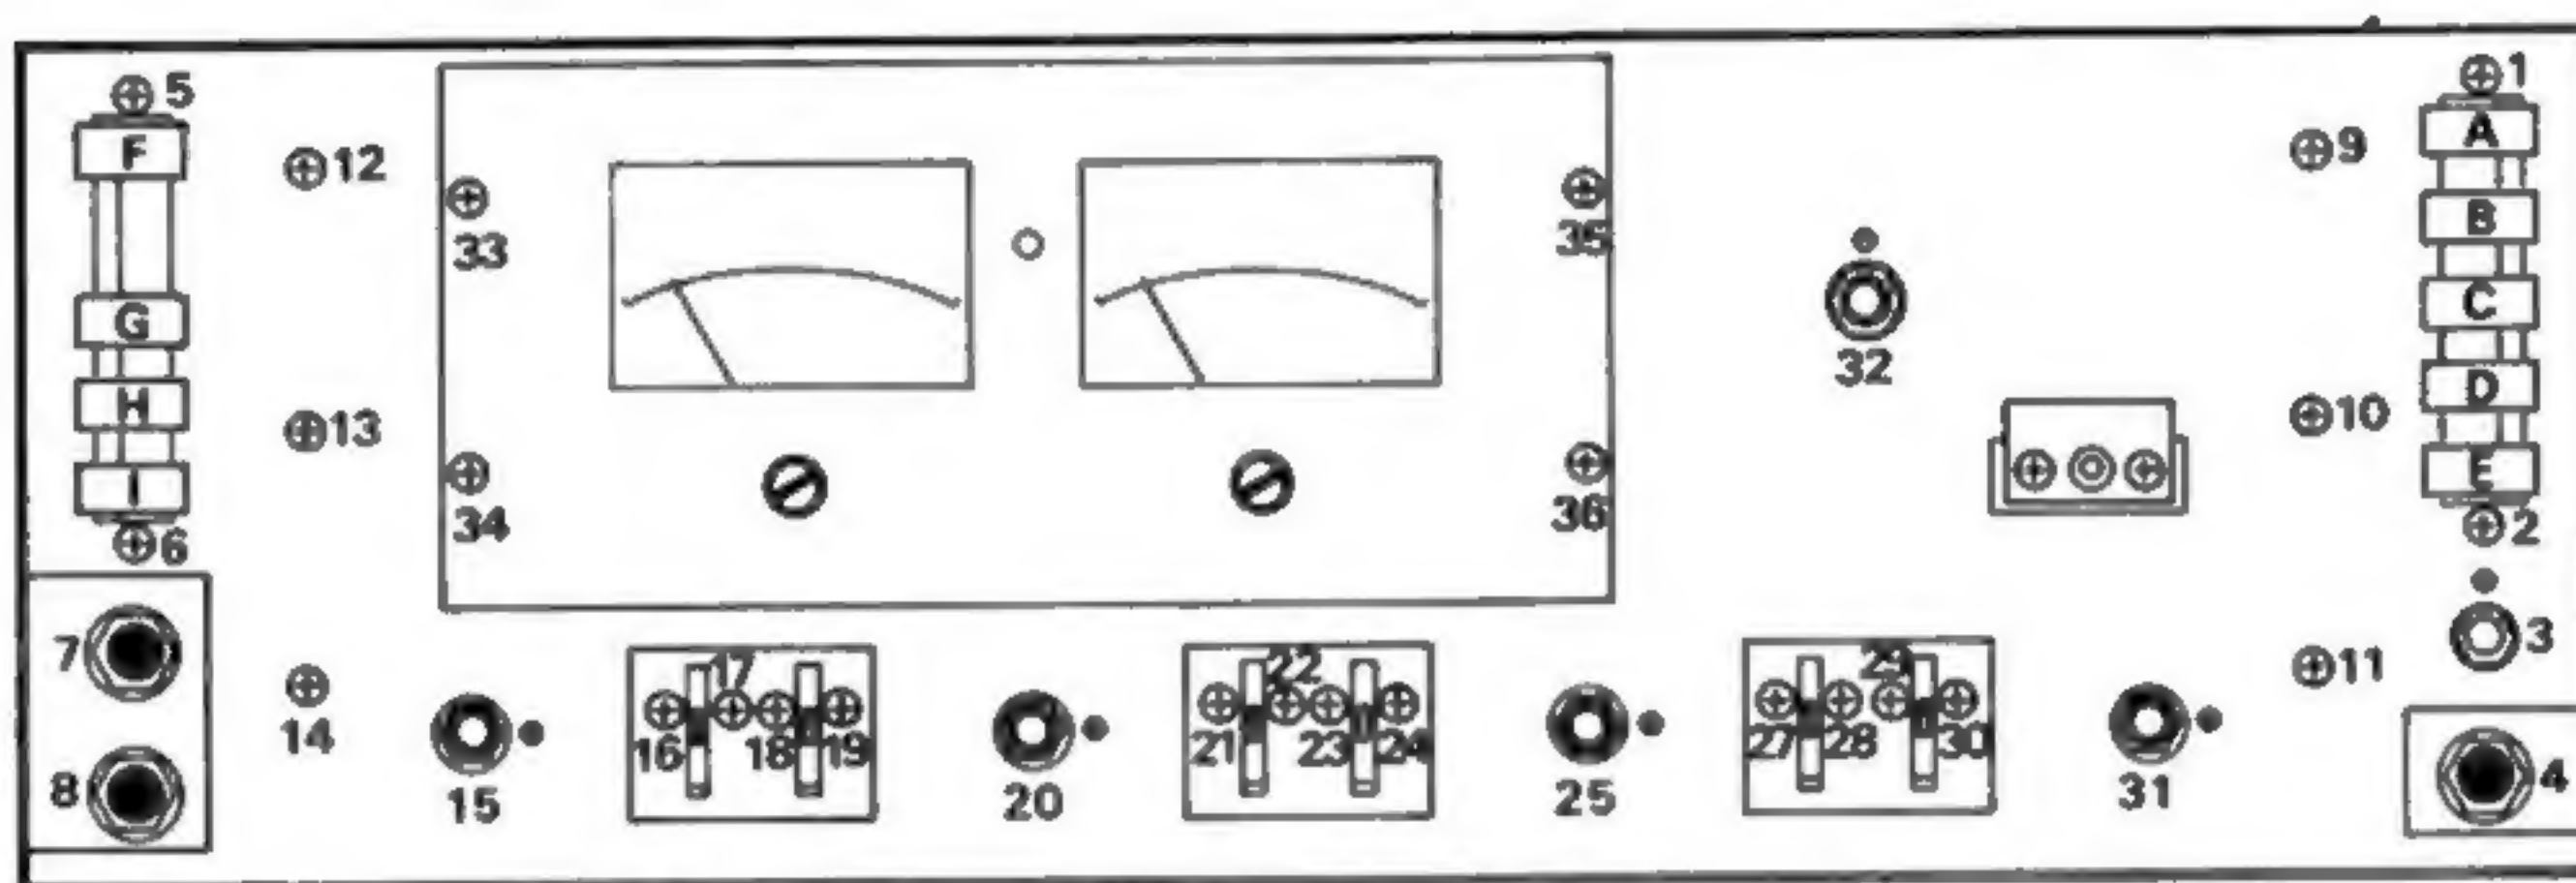

Fig. 1-4 FRONT CHASSIS
- Remove the 5 function knobs (Fig. 1-4, knobs A-E).
- Unscrew the 2 function switch mounting screws (Fig. 1-4, screws 1 and 2).
- Remove the 2 mounting nuts on MIC JACK and MIC VOL., respectively. (Fig. 1-4, nuts 3 and 4).
- Remove the 4 knobs for power switch and speaker switch (Fig. 1-4, knobs F-I), and 2 switch mounting screws (Fig. 1-4, screws 5 and 6).
- Unscrew the 2 headphone jack mounting screws (Fig. 1-4, screws 7 and 8).
- a) After completing procedures 1 to 3, unscrew the 4 meter decoration board mounting screws (Fig. 1-4, screws 33-36).
- a) After completing procedures 1 to 3, remove the 9 knobs for FUNCTION POWER AND SPEAKER (Fig. 1-4, knobs A-1), and the 4 switch mounting screws (Fig. 1-4, screws 1, 2, 5, and 6).
- b) Remove the 4 mounting nuts for MIC VOL., MIC JACK and PHONE JACK. (Fig. 1-4, nuts 3, 4, 7 and 8).
- d) Remove mounting screws and nuts for all controls on the front chassis (Fig. 1-4, screws, nuts 15-32) 12 screws and 5 nuts), and detach Tone Control Amp. PCB from front chassis.
- a) After completing procedures 1 and 2, unscrew the 2 left side panel mounting screws. (Fig. 1-4, screws 9 and 10).